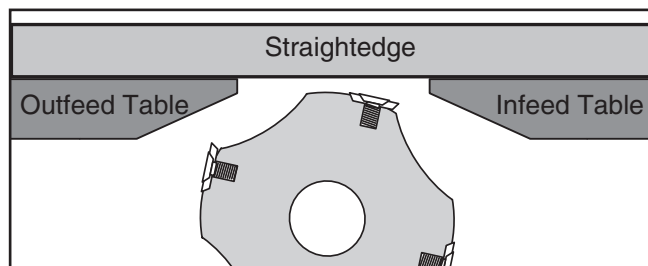

Figure 52. Infeed and outfeed tables set evenly.
4. Rotate cutterhead so inserts will not interfere, then place straightedge across infeed and outfeed tables, and adjust infeed table so it is even with the outfeed table, as shown in **Figure 52**.